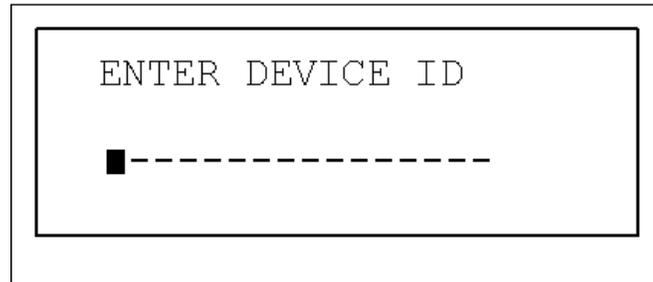

Figure 10. Enter Device ID screen
5. The Tester will perform some internal system checks and then display the Main Menu as shown in Figure 10.